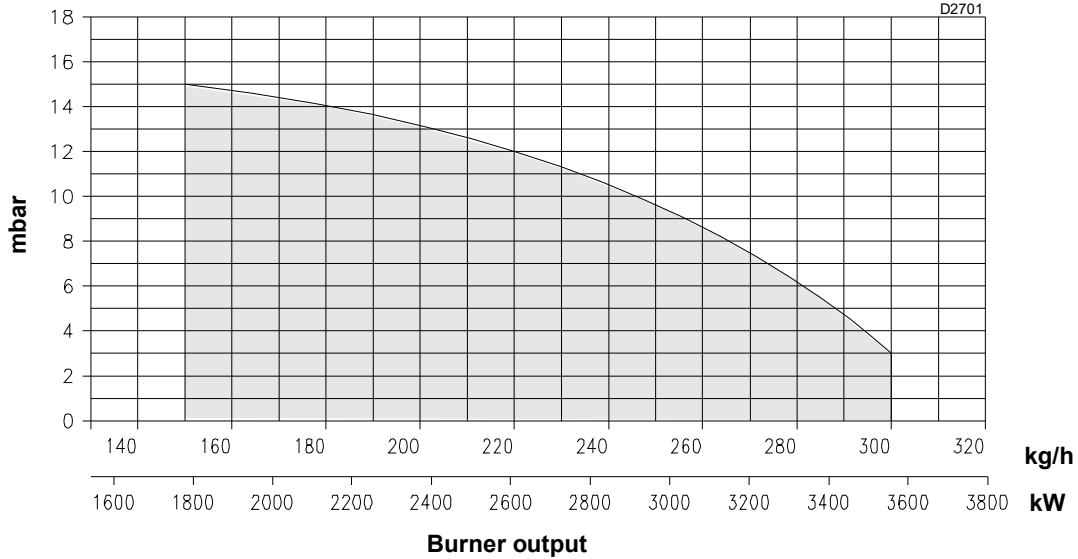
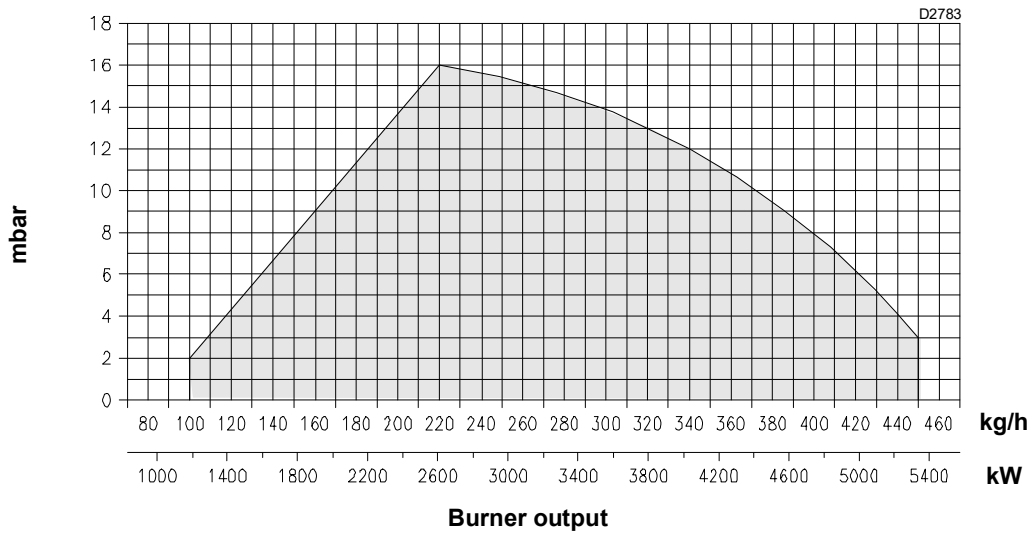

Fig. 2
Fig. 3
- **MAXIMUM OUTPUT:** must be within the firing rate (Fig. 2 and Fig. 3).